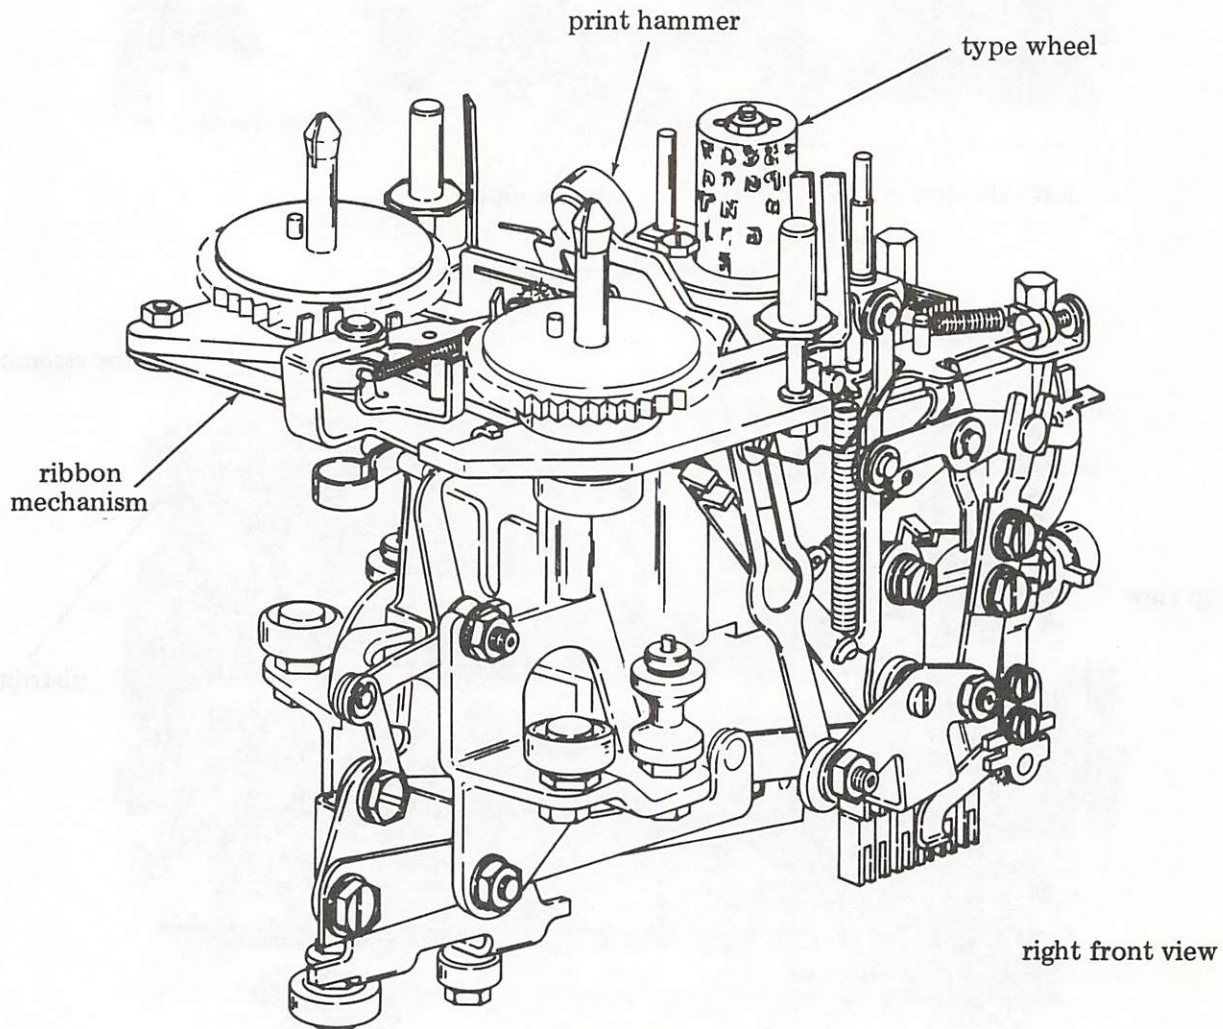

Figure 8 - Print Carriage Mechanism
3.16 The printing of characters on paper is accomplished by the print carriage mechanism shown in Figure 8. The print carriage mechanism includes the type wheel, print hammer, ribbon mechanism, and the necessary slides and levers required for the printing of characters.